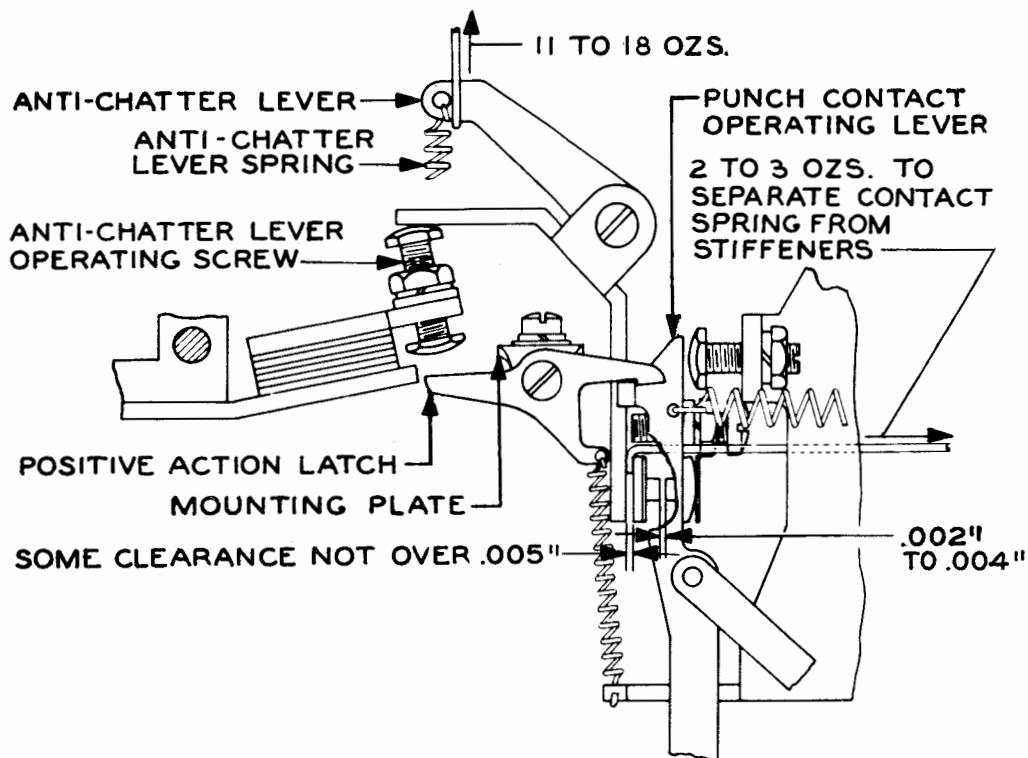

Figure 13
2.24 Left Contact Spring: It should require a pull as specified in the figure to just start the left contact spring moving away from its stiffener when the antichatter lever is held away from the insulator on the left contact spring. See Figure 13.
2.26 Punch Operating Contacts: There should be clearance as specified in the figure when there is some clearance between the antichatter lever and the insulator on the left (short) punch-operating contact spring, and the punch-contact-operating lever is held in its latched position by the positive action latch. See Figure 13.
2.27 Antichatter Lever: There should be clearance as specified in the figure between the antichatter lever and the insulator on the left (short) contact spring when the punch-magnet armature lever is resting firmly against its left (unoperated) stop and the antichatter lever is resting firmly on its operating screw in the armature. See Figure 13.
2.31 Antichatter Lever Spring should have such a tension that it requires a pull as specified in the figure to just start the antichatter lever moving away from its operating screw in the armature when the punch-magnet armature lever is resting firmly against its left stop and the antichatter lever operating screw is adjusted as in 2.27. See Figure 13.